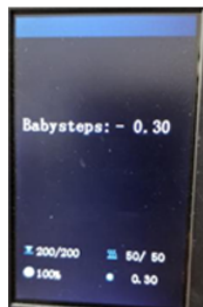

Fig2
2. When printing started, double click (click twice in one second) the knob to open Baby Z offset menu (Fig 2).